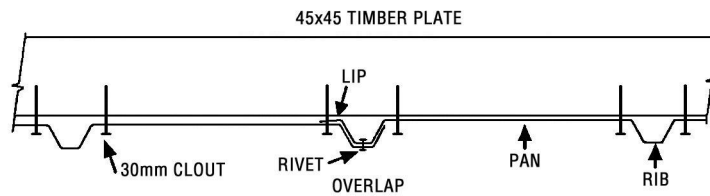

fig. 1
When fitting Gable End Sheets ensure they overlap correctly (**fig 1**). The overlap direction may differ from cladding detail below.
Step 2: Back Wall: Start at the right hand side. Position the first Wall Sheet with the LIP on the right hand side. Ensuring the LIP is flush with the side of the Studs and the top of the Wall Sheet is flush with the top of the Top Plate, tack in place. Position the next Wall Sheet with the LIP on the right hand side. Overlap as shown in (fig 1). Ensuring Wall Sheet is flush with top of Top Plate, tack in place. Repeat with remaining sheets.